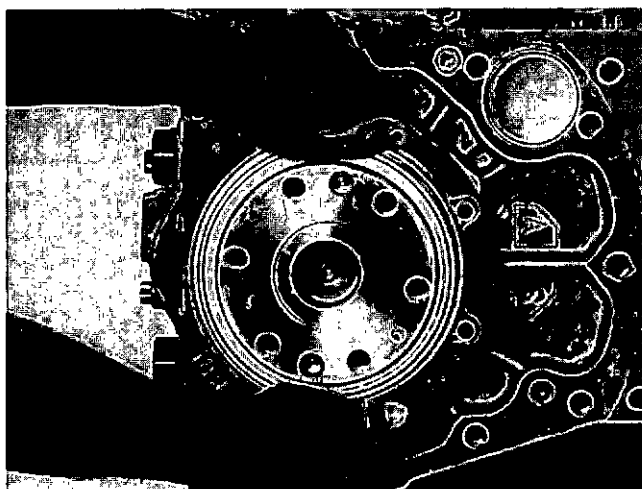

Fig. 0-52. Remove The Rear Cover And Seal.
3. Lift the cover and seal from the crankshaft flange, Fig. 0-52. Remove the seal from the housing.